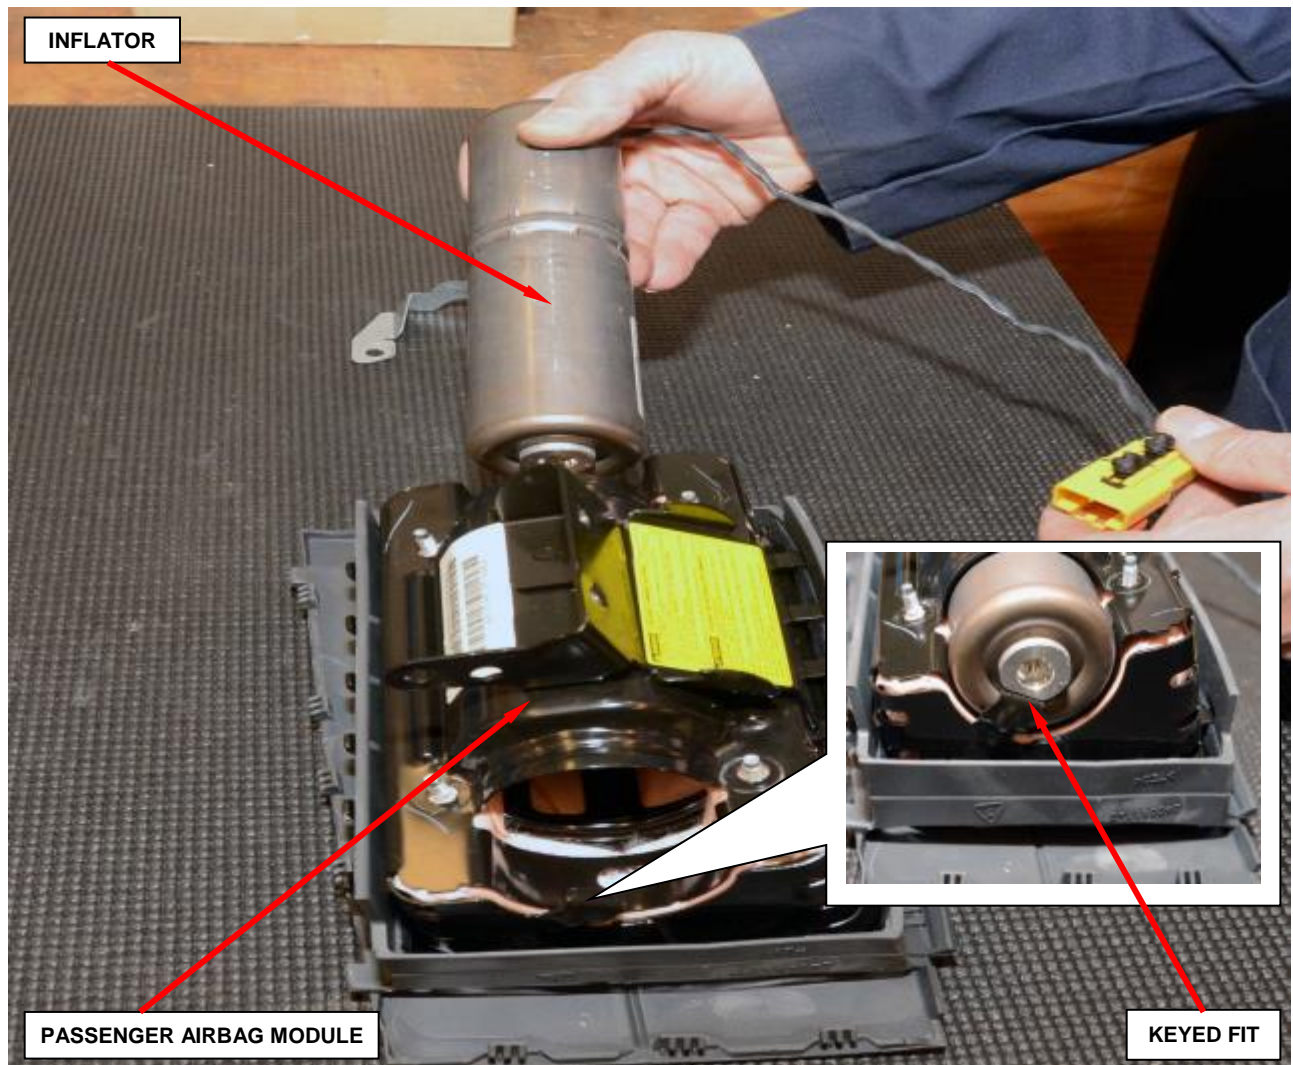

Figure 114 – Passenger Inflator Installation
NOTE: The inflator's key MUST line up with the housing's key (Figure 114).
- o. Slide the **new** inflator into the passenger airbag module (Figure 114).
NOTE: The inflator is keyed to fit into the housing (Figure 114).